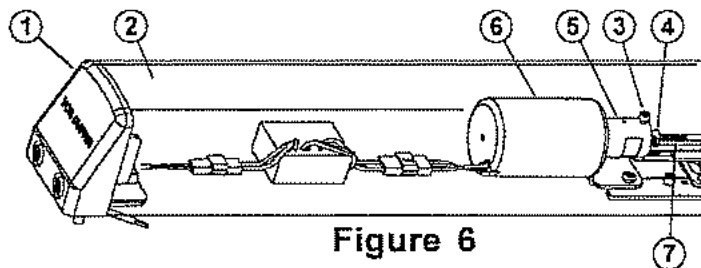

Figure 6
C. Adjust solenoid if dogging rod is too long (see Figure 6):
1. Remove end cap ① and dogging cover ②.
2. Loosen cap screw ③.
3. Hold plunger ④ depressed in solenoid housing ⑥.
6. Replace dogging cover ② and end cap ①.
D. Solenoid adjustment if dogging rod adjustment is too short (see Figure 6):
4. Turn threaded bushing ⑤ out to lengthen dogging rod ⑦ so plunger ④ just bottoms in solenoid housing ⑥ and latch bolt is fully retracted.